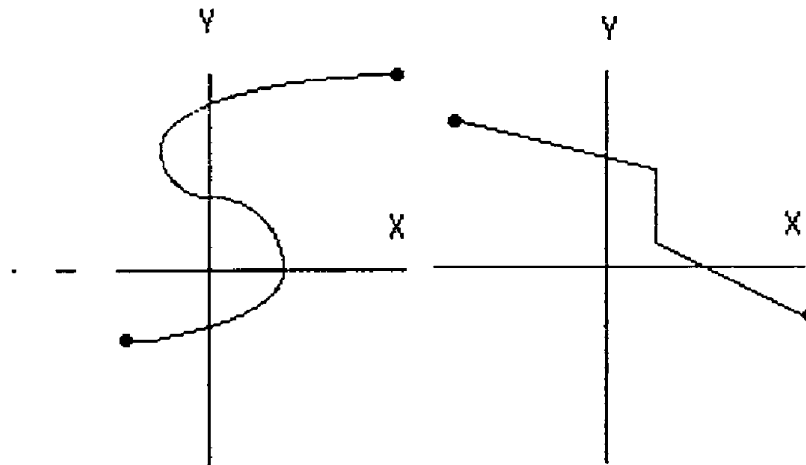

Figure 13. Illegal Functions
2) The nonlinear function must be a single-valued function of X. That is, for each input value, there can exist only one output value. Figure 13 shows two illegal functions. This limitation is seldom encountered in natural phenomenon.